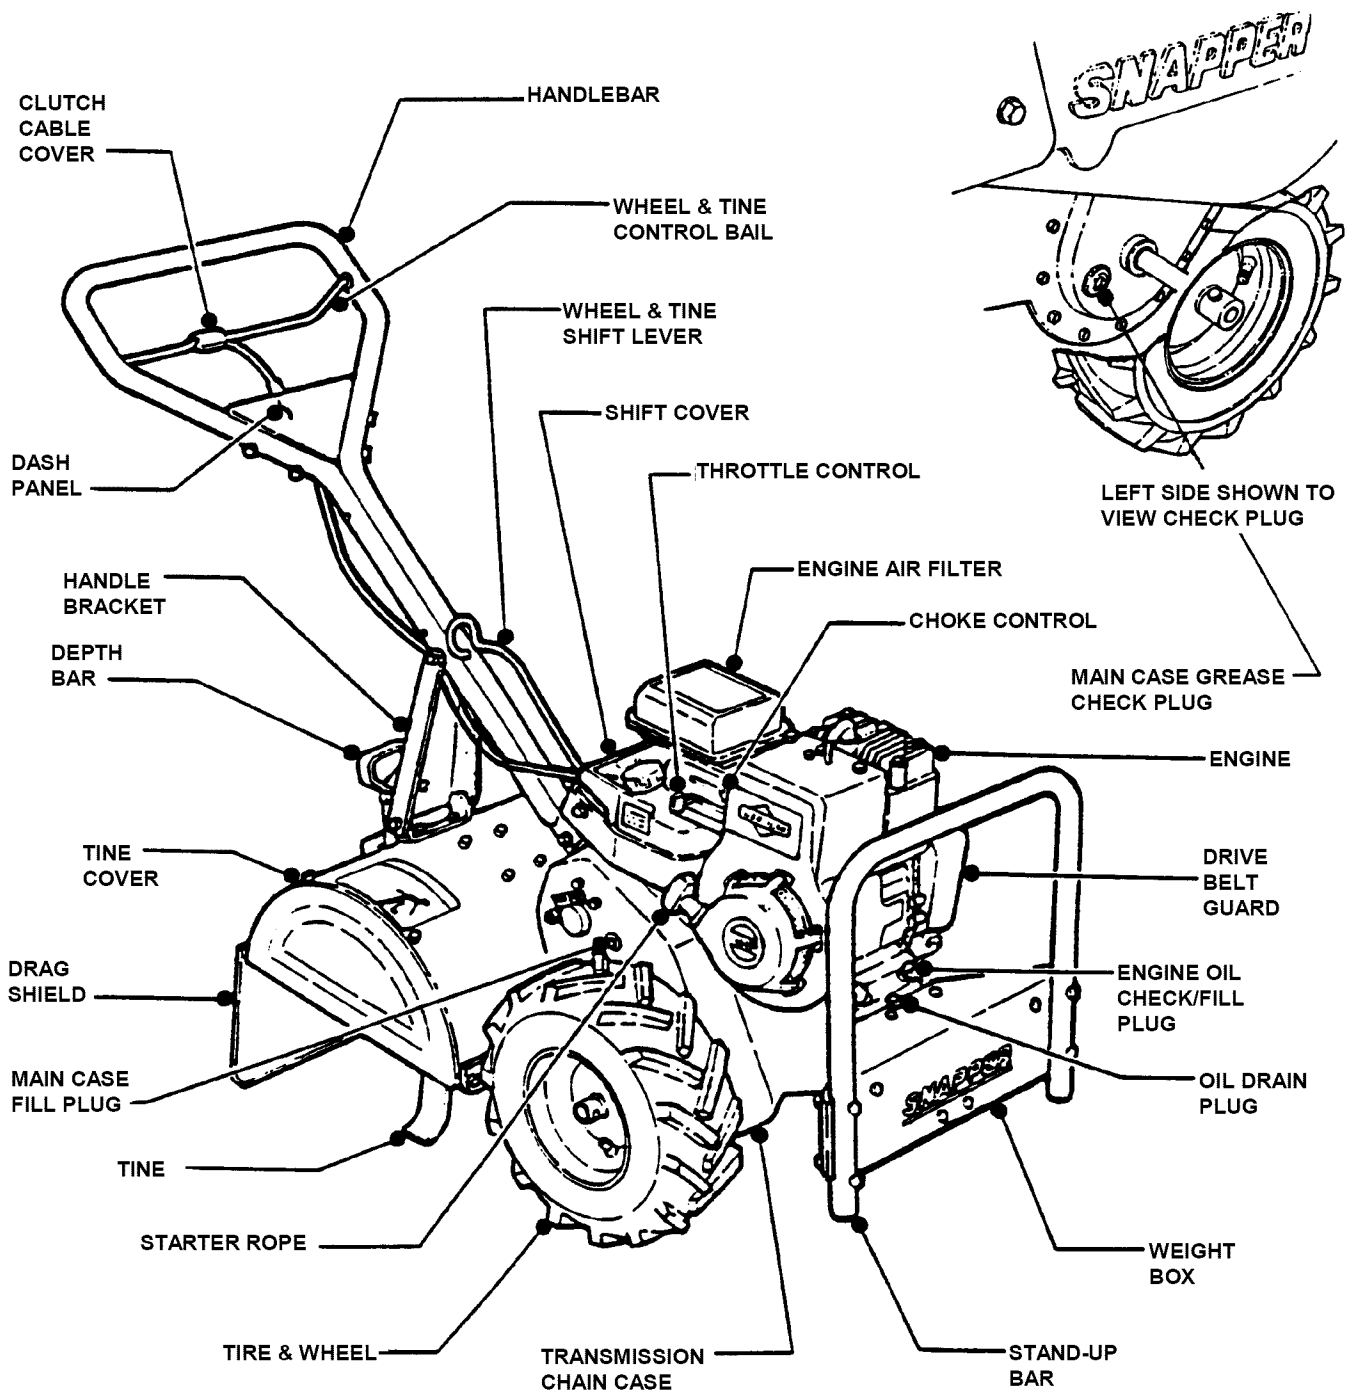

FIGURE 1
1.1 INTRODUCTION: This manual covers the recommended operating procedure and routine service requirements on SNAPPER Intermediate Rear Tine Tiller Model IR5003B. It is recommended that all operator's of this Tiller become thoroughly familiar with the controls and proper operation of the unit before operating. Specific details involving the engine are found in the separate engine owner's manual. Study these manuals before operating and keep both handy for future reference. Refer to Figure 1 above for location of controls and other essential components.